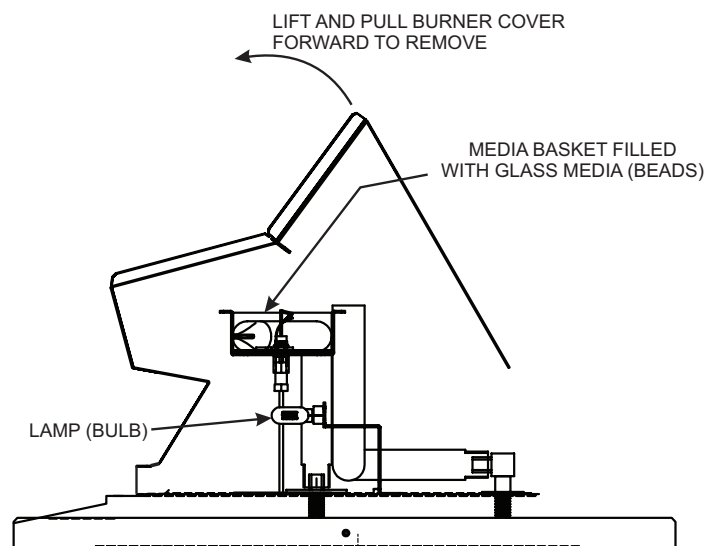

Figure 62 - Side view of burner
6. Grasp the burner cover and lift up while slightly tipping the grate forward. **See Figure 62.**